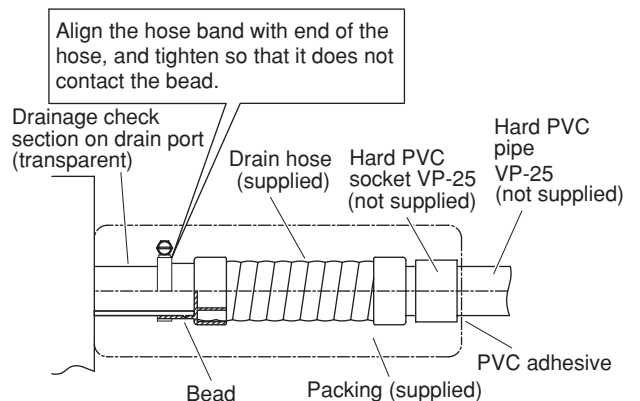

Fig. 3-25
When doing this, leave a gap between the drain socket and the PVC pipe to allow the drainage to be checked. The unit's transparent drain port allows you to check the drainage. (Fig. 3-25)
- Tighten the hose clamps so their locking nuts face upward. (Fig. 3-25)